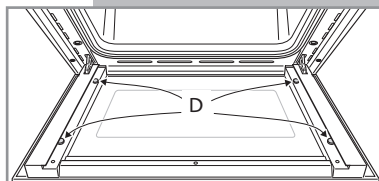

Fig. 30
- Check that the four rubber pads are in place (**D** in Fig. 30).